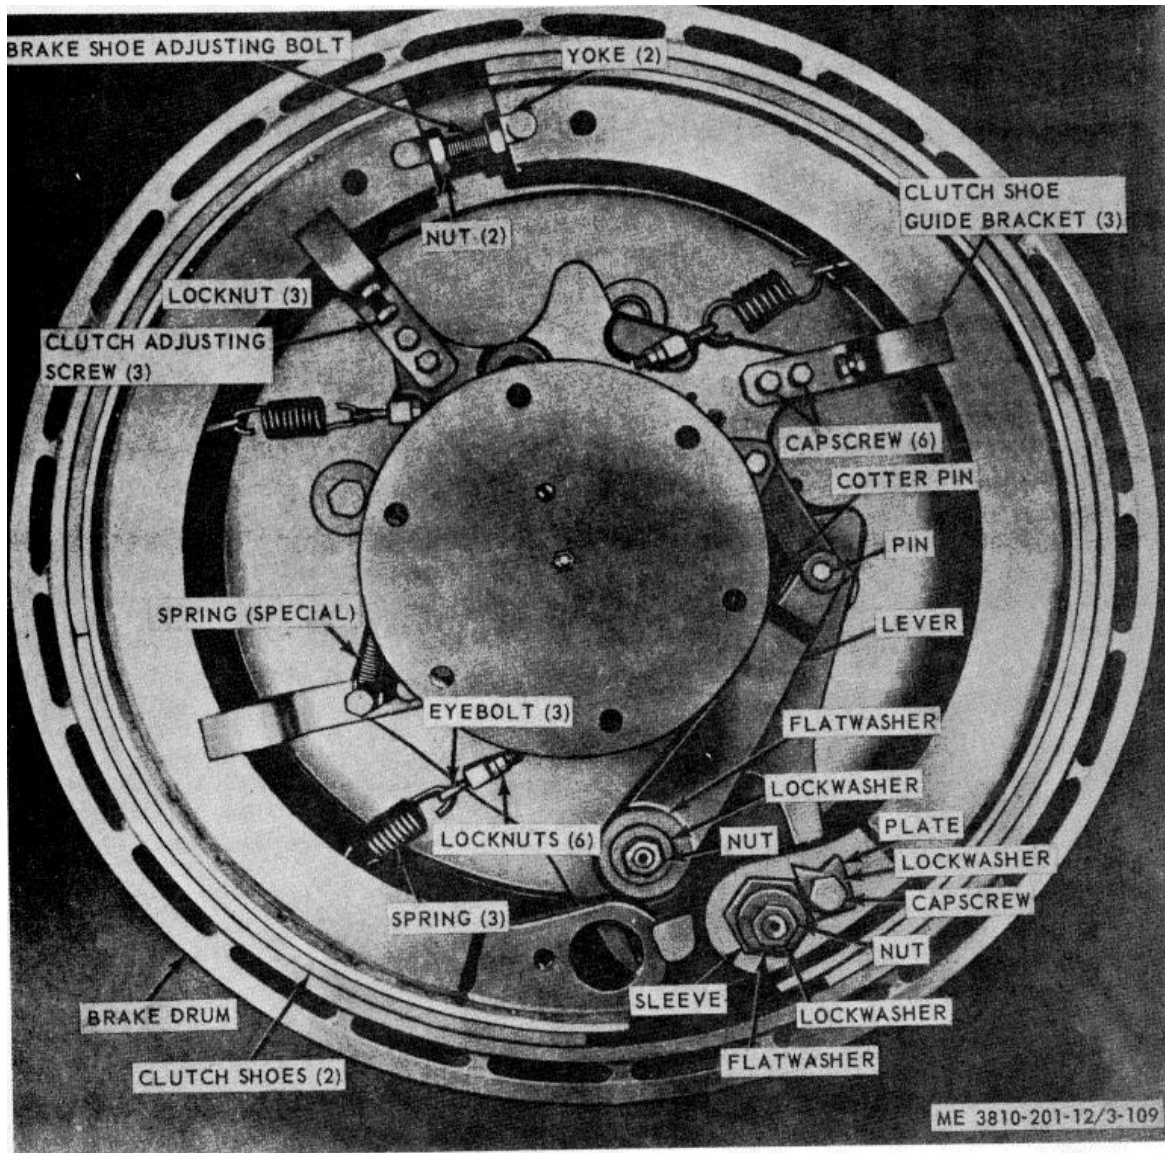

Figure 3-109. Main hoist clutch shoes, removal and installation.
(1) Remove auxiliary clutch hydraulic brake cylinder (para 3-123).
(2) Refer to figure 3-109 and remove main hoist shaft clutch shoes.
(3) Remove remaining clutch shoes in a similar manner.